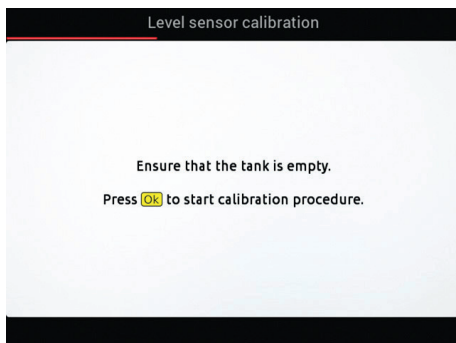

Fig. 122
- 2 The message in Fig. 122 is displayed: follow the instructions, then start the procedure by pressing **OK**.